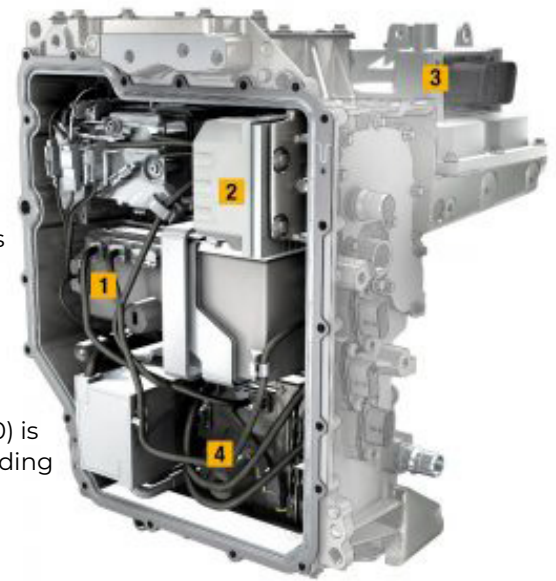

Figure 9 Power electronics from a Renault Zoe (credit; Renault)
Typically, the power electronics of a modern electric vehicle (Figure 9) will comprise (1) a rectifier, (2) a DC-DC converter, (3) an input filter, and (4) an inverter. Within the power electronics control module, the AC-DC, DC-DC conversion, and the DC to 3-phase current for the electric machine require a variety of printed circuit boards (PCBs). Power electronics can run hot depending on the amount of power they are converting, and this heat must be managed. For supplies with high power, alternate board materials such as ceramics or some PTFE laminates may be needed.